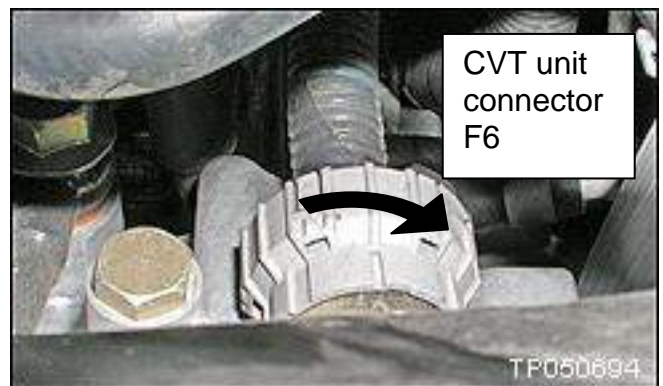

Figure 3
5. Disconnect the CVT unit harness connector F6 by turning counterclockwise (see Figure 3).